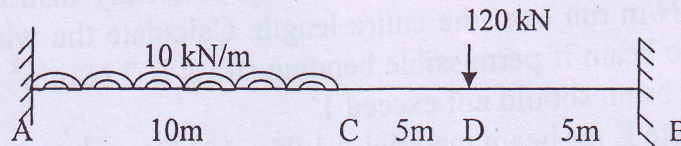

Figure 5
- (B) Find fixed end moments for a beam shown in figure 5. Draw S.F.D and B.M.D. 07